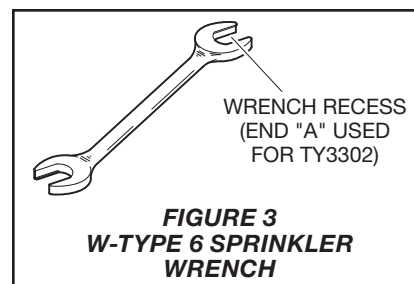

FIGURE 3
Step 3. Tighten the sprinkler into the sprinkler fitting using only the W-Type 6 Sprinkler Wrench (Ref. Figure 3). With reference to Figures 1, the W-Type 6 Sprinkler Wrench is to be applied to the sprinkler wrench flats.